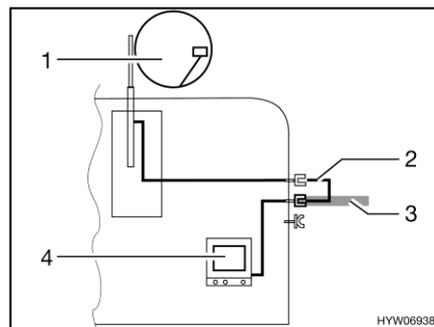

Fig. 131 TV inside the vehicle
- TV inside the vehicle (Fig. 131,4): Connection to roof antenna (Fig. 131,1) with connection cable (Fig. 131,2)
- TV inside the vehicle (Fig. 131,4): Connection to external antenna (Fig. 131,3)